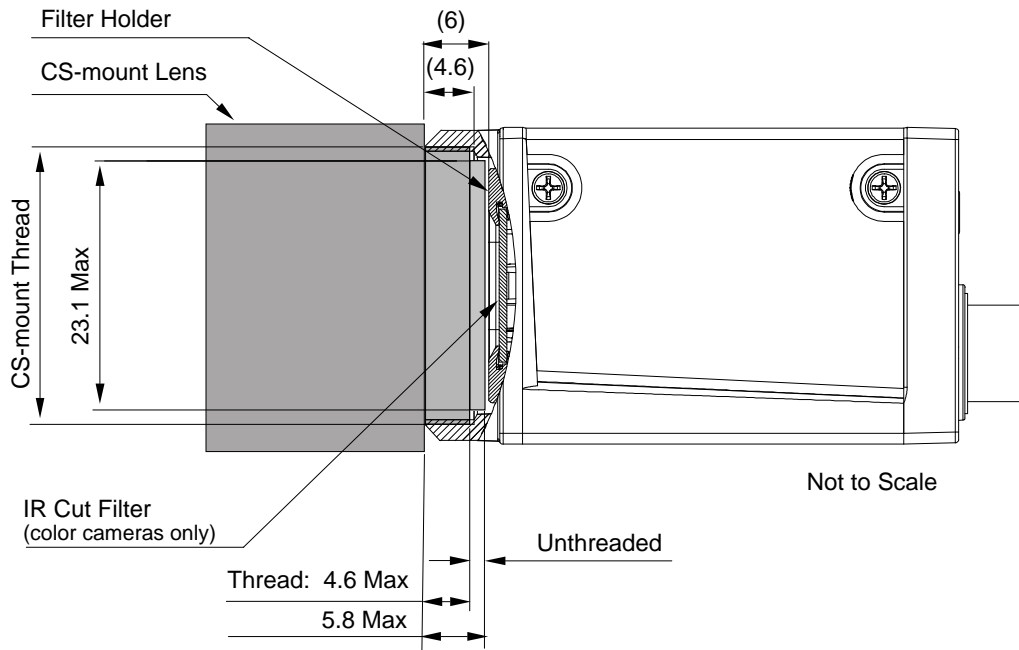

Fig. 23: Maximum Lens Thread Length (Dimensions in mm) for Cameras with the CS-mount Lens Adapter
- Camera with CS-mount lens adapter (see Figure 23):